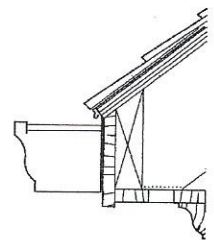

Figure 3a: ogee gutter
- Gutters shall be round or ogee profile (Figure 3a).